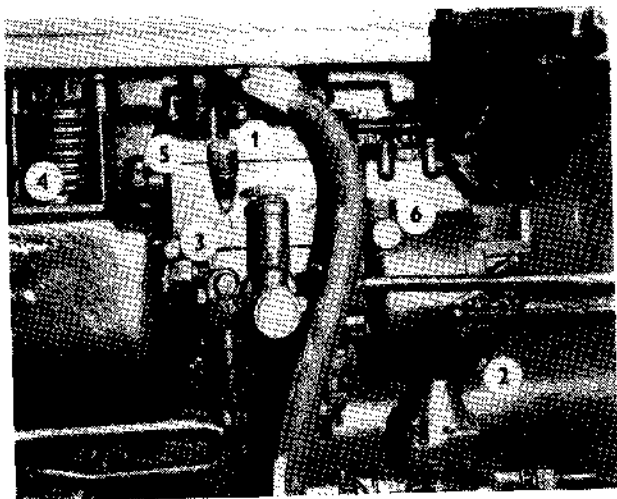

Fig. 8
8. Injection pump body and governor oil filling hole (Fig. 8/1).
9. Injection pump body and governor oil drain plug (Fig. 8/2).
14. Compressor engagement lever (Fig. 8/3).
15. Compressor engagement safety pin (Fig. 8/4).